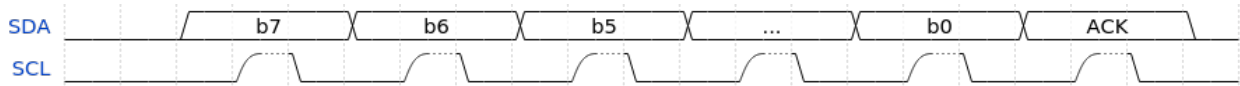

Figure 3: I²C read byte
If the read/write bit of the transaction start is 1 then the master will execute a sequence of reads. Each read consists of the master driving the clock whilst the slave drives the data for 8-bits (most significant bit first). At the end of each byte, the master drives another clock pulse and will either drive either an ACK (0) or NACK (1) signal on the data line. When the master drives a NACK signal, the sequence of reads is complete. A read byte sequence is show in Figure 3